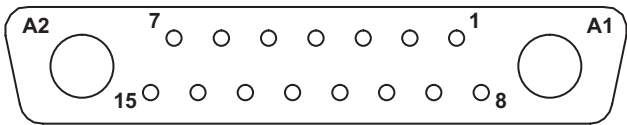

Figure 6.1: Pin configuration of the Sub-D jack INTERFEROMETER
8. Using a multimeter, measure the internal operating voltages at the Sub-D jack INTERFEROMETER. Figure 6.1 shows the pin configuration of the jack. The following voltages must be measurable with a tolerance of $\pm 0.2\text{V}$ at the individual pins referred to GND.